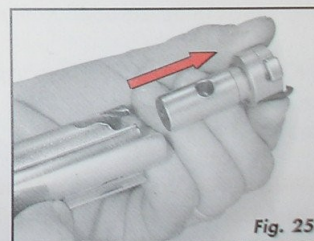

Fig. 25
11. Pull the locking head from the bolt body (Fig. 25).